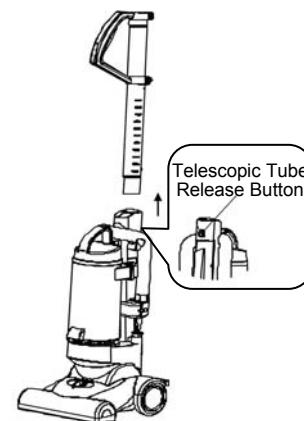

Fig. 2
5. To remove the telescopic tube, extend it to its maximum height by depressing the telescopic tube height adjustment button and then press the telescopic tube release button and pull the tube out. (Fig. 2)